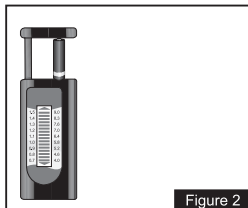

Figure 2
#### Testing A 1.5-Volt Battery ( Figure 2 )
- 2 Position the battery as indicated in the Figure 2 ( battery's + terminal faces up ).